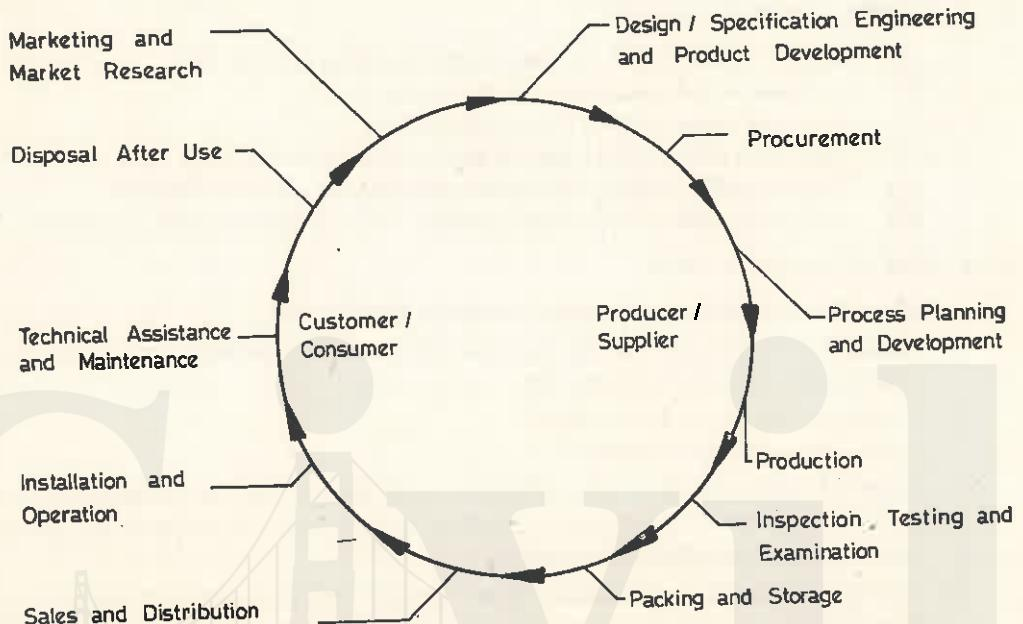

Fig. A. 1. Quality loop
- *Quality control* involves operational techniques and activities aimed both at monitoring a process and at eliminating causes of unsatisfactory performance at relevant stages of the quality loop (quality spiral) in order to result in economic effectiveness, (Fig. A.1).